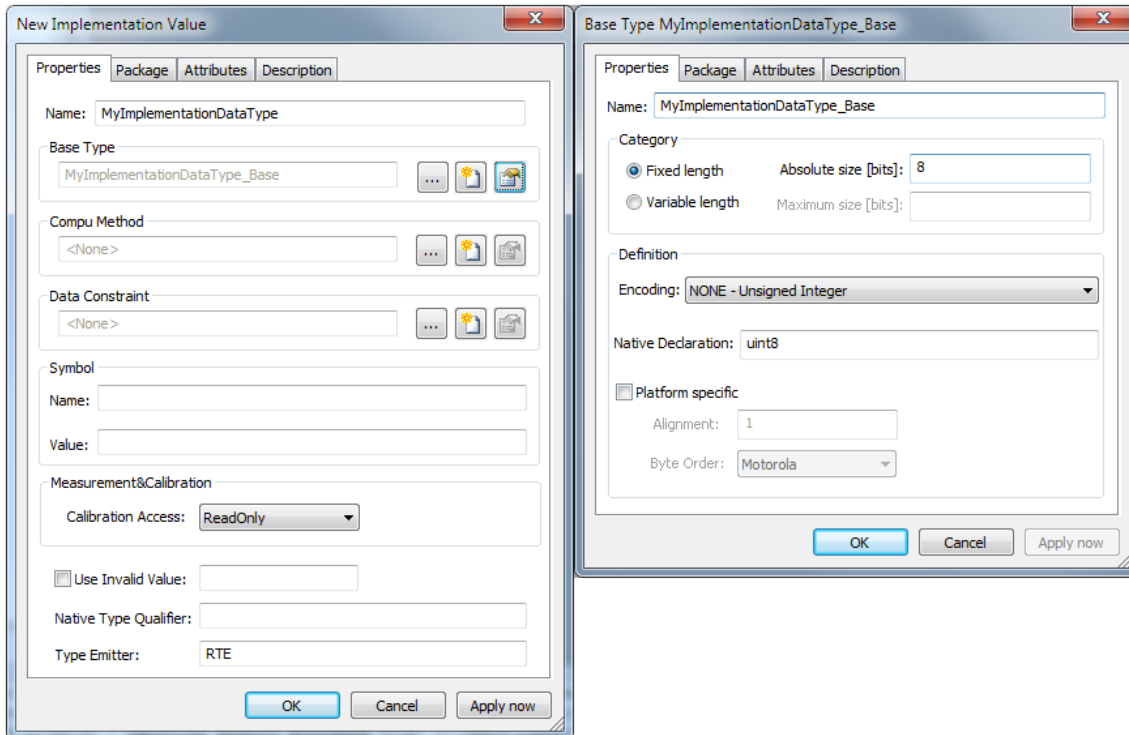

Figure 3-12 Native declaration: Autosar Standard Type
- It is possible to write the name of an Autosar Standard Type as native declaration in the BaseType referenced by MyImplementationDataType of category Value (see Figure 3-12). This way is however not very pretty because its intention is to model a "Type Reference" without expressing it formally in the model. In this case the same typedef will be generated: